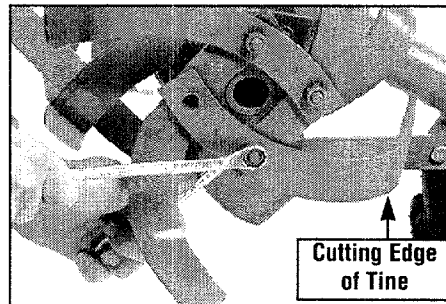

Figure 5-7: Removing single tine.
1. With the engine shut off and the spark plug wire disconnected, remove the two bolts and nuts that attach a single tine to the tine holder (Figure 5-7). If needed, use penetrating oil to help free the nuts.